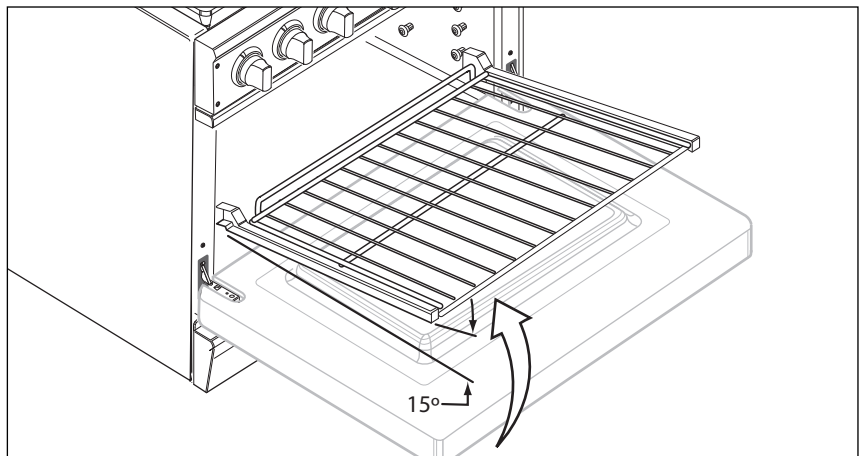

Fig. 02
2. As you slide the rack into the oven, tip the rack up slightly (see Fig. 02), so that the safety stops on the back of the rack slide over the rollers in the oven. The safety stops keep the rack from sliding out of the oven when pulled forward.